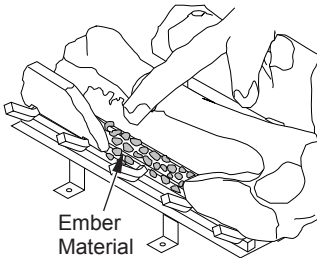

Figure 41 - Placing Ember Material on Burner
7. Pull ember material apart into pieces no larger than a dime. Place these pieces loosely and sparingly directly onto the exposed section of front burner and along space between burner and grate prongs (see Figure 41). This will create the glowing ember appearance as the flame touches the ember material. Do not block air slots by using too much ember material in one area. It is not necessary to use all of the ember material provided.